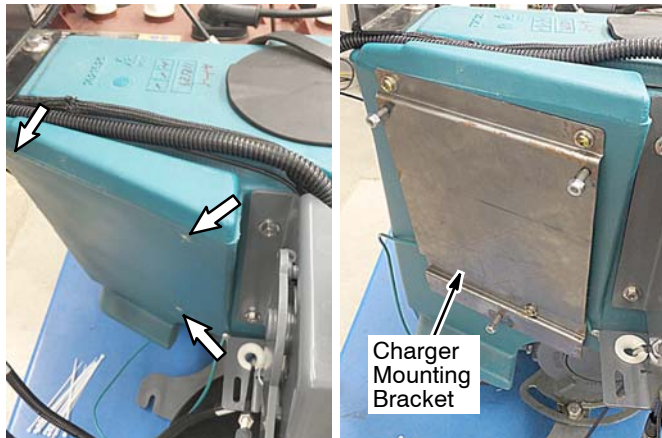

FIG. 22
8. Attach the new battery charger mounting bracket to the machine as shown (FIG. 22). Use three M5 screws supplied with kit.